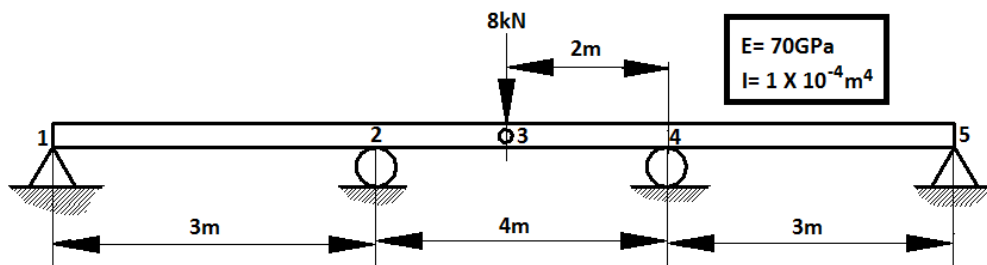

Figure 1
- 1A)** For the beam assemblages shown in Figure 1, determine the nodal (05)